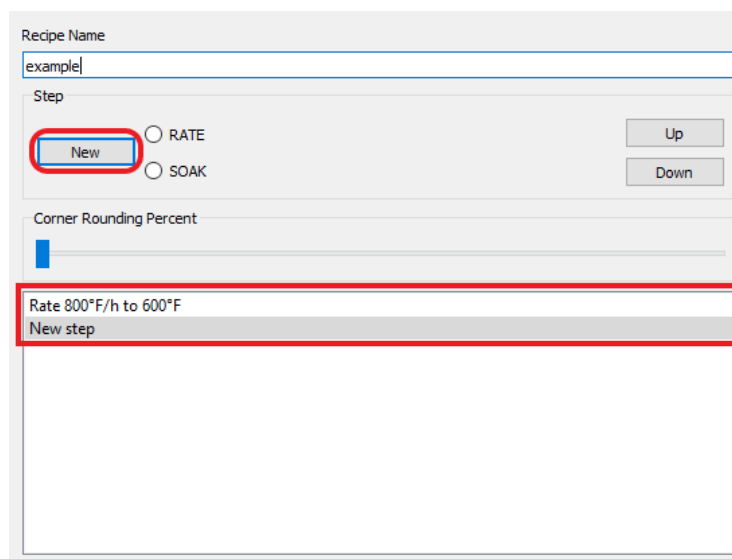

Figure 74: Recipe Editor – ‘New’ Step Button
- Click the New Step button – highlighted in Figure 74 below – to add the next step in your recipe. The new step will appear in the Step List as “New Step”. In our example the second step is also a Rate step and we’ve added it before proceeding to the next example.